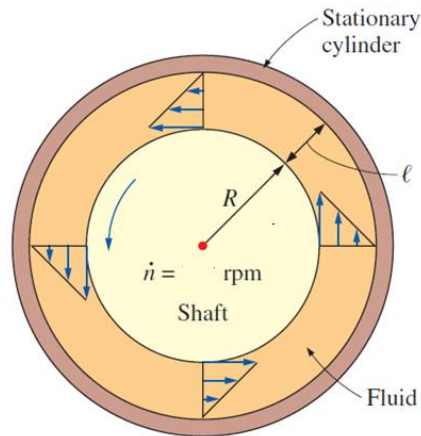

Figure 3 Schematic view of viscometer
- (b). A common method that used to measure the Newtonian viscosity is rotational viscometer, sometimes called a Brookfield viscometer. If a tiny gap between the two cylinders as shown in Figure 3 becomes larger, what do you expect happen to the velocity profile? Explain whether it is valid for the test or not.